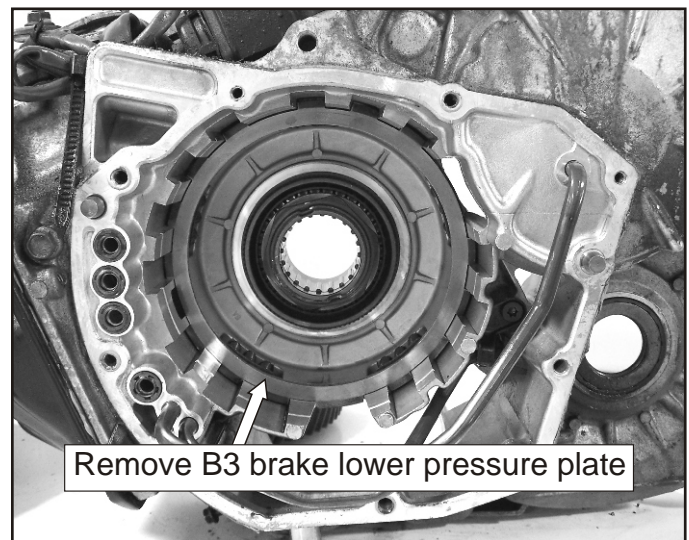

Figure 82
31. Remove the B3 brake lower pressure plate from the case as shown in Figure 82.